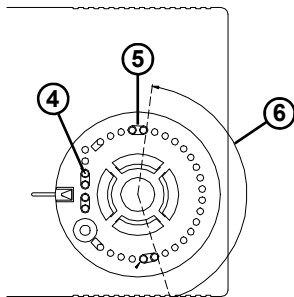

Fig. 6
1. First remove the dial by inserting a small screwdriver in the slot (2) and lifting the dial off carefully.
2. Pick up the plastic pins (4) parked to the left of the knob area and set them (5) as shown in of Fig. 6. In this example the rotation range (6) is reduced to the angle shown.